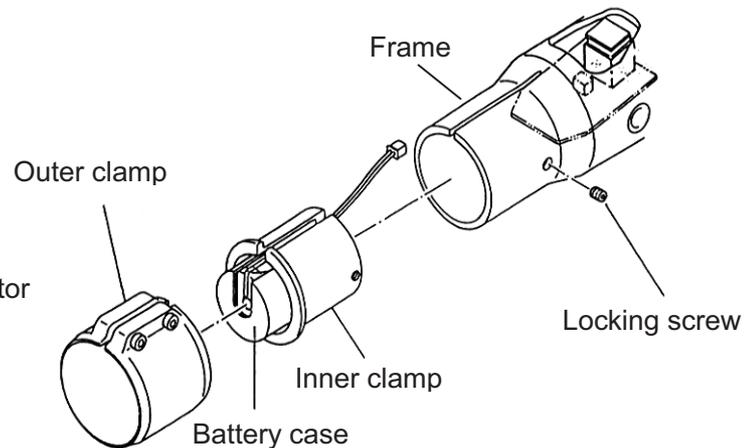

Fig.8 Removing the clamp
3. Remove the outer clamp off the frame, remove the locking screw, then pull out the inner clamp together with battery case. (See Fig.8.)
* In setting the inner clamp, have the battery connector be on the front surface side of the circuit board, as shown in Fig.8.